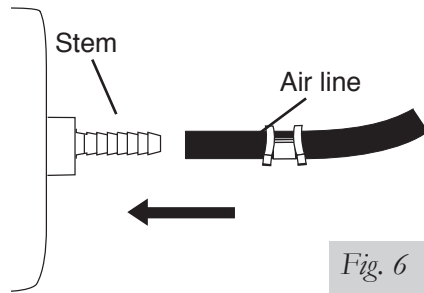

Fig. 6
- Push the air line onto the stem, covering all the barbs (Fig. 6). With the pliers, slide the air line clamp upward until it fully covers the barbed section.
5. Push the air line onto the stem, covering all the barbed section (see Fig. 6). With pliers slide the air line clamp forward until it fully covers barbed section.